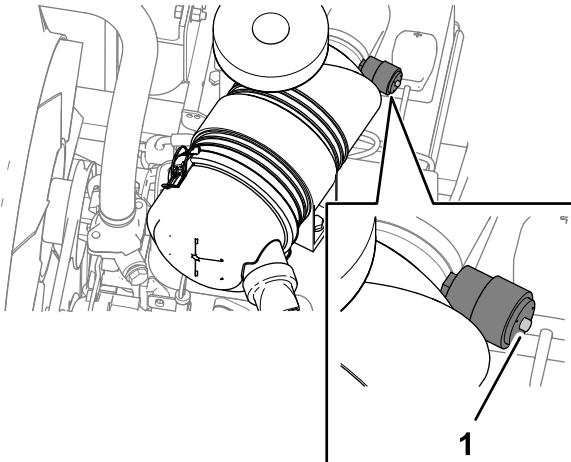

Figure 61
3. Check the air filter-blockage indicator (Figure 61).
**Note:** Service the primary air filter when the filter-blockage indicator (Figure 61) is red. Changing the air filter frequently increases the chance of dirt entering the engine when the filter is removed.